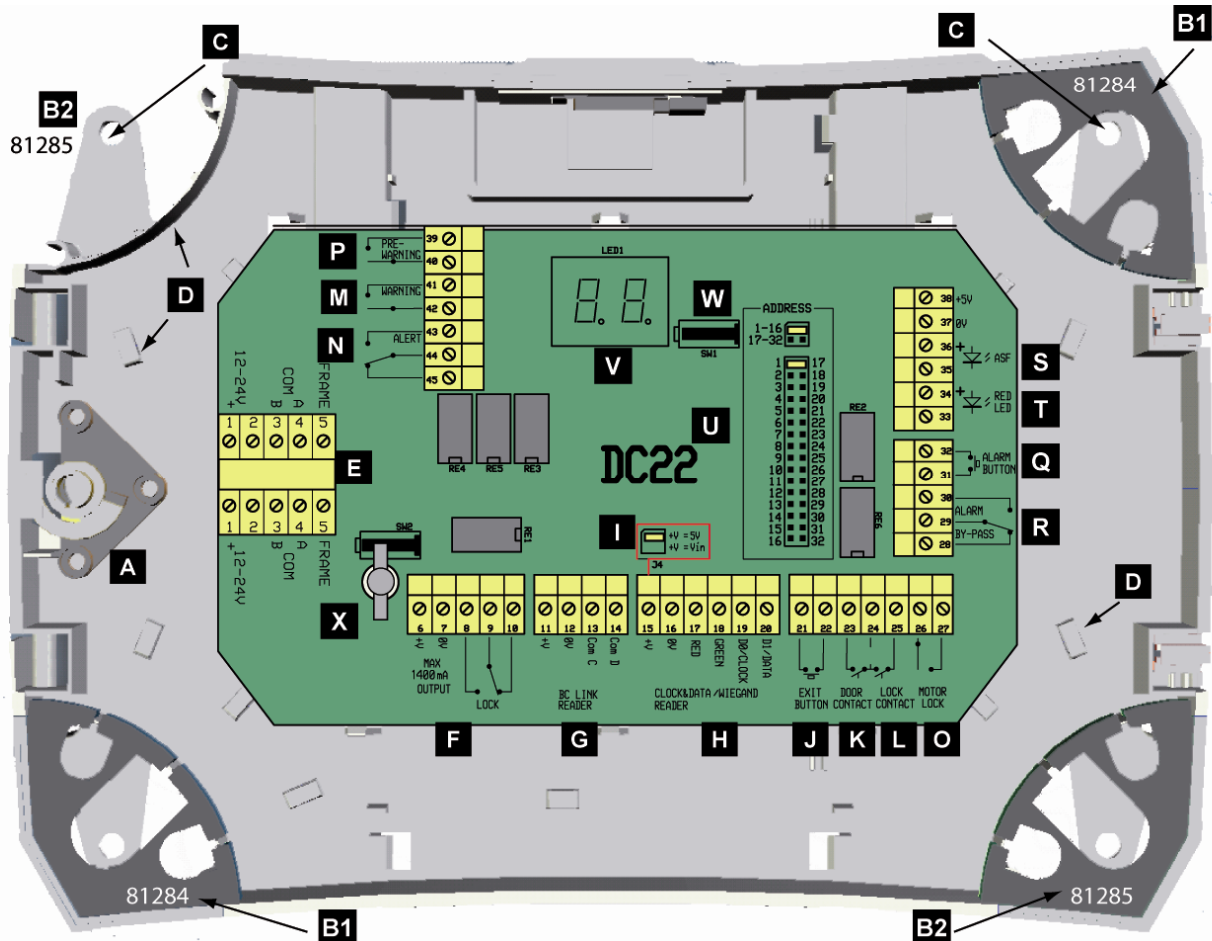

Fig. 2 DC22 overview. Please see next page for details.
- The cable entry can be solved in many ways. There are knockouts in both the base and the corner elements. See figure 2.